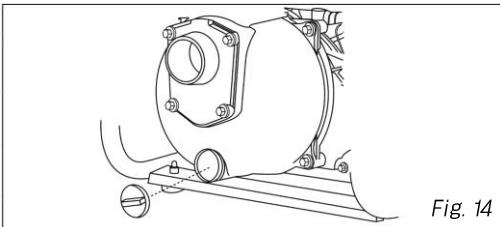

Fig. 14
2. Remove the drain plug at pump's bottom (Fig. 14).